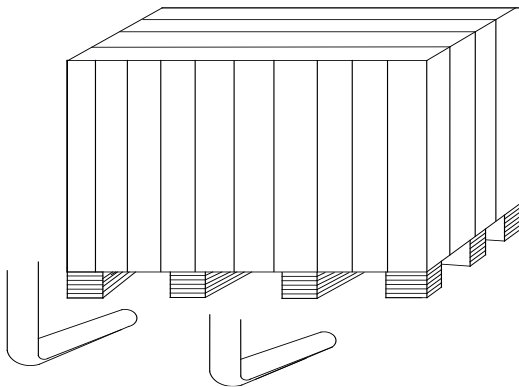
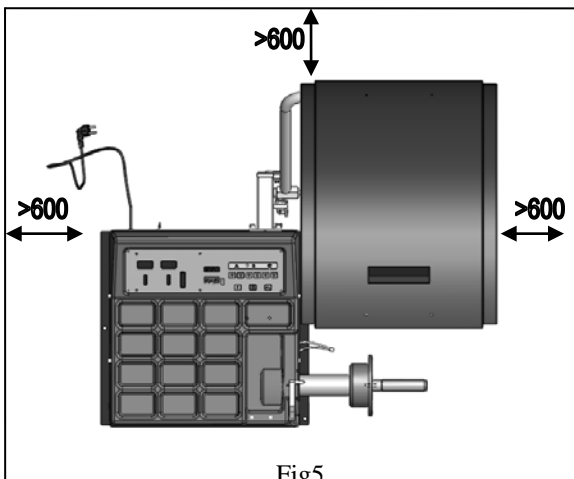

Fig4
Fig5
4. 1. 1After being sure that the package of your machine is perfect, you can carry the wheel balancer to the installation site.(Fig4). The choice of the installation should comply with the following requirements. The ambient temperature is 0°C-50°C and the RH ≤85%. And the installation site as shown in Fig5.